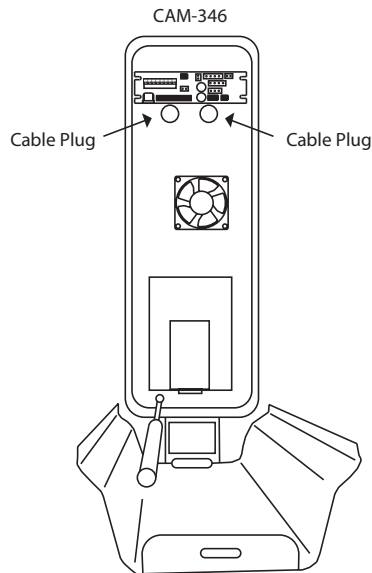

Figure 2-1 Cable Plugs
3. Remove one of the plastic knockout plugs from the bottom surface of the CAM-3X2-E housing (Figure 2-1).